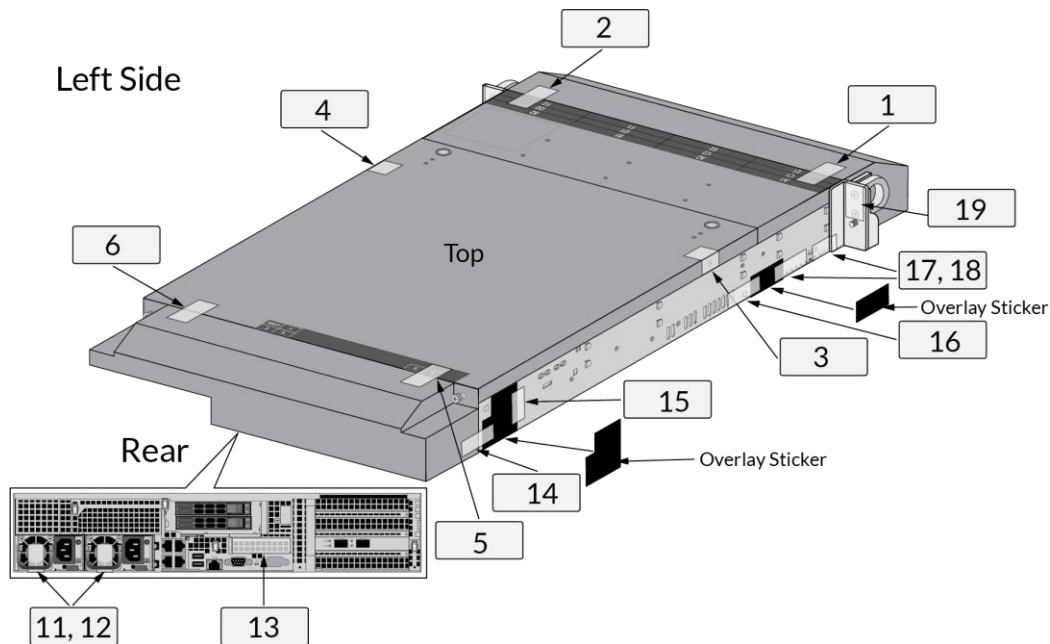
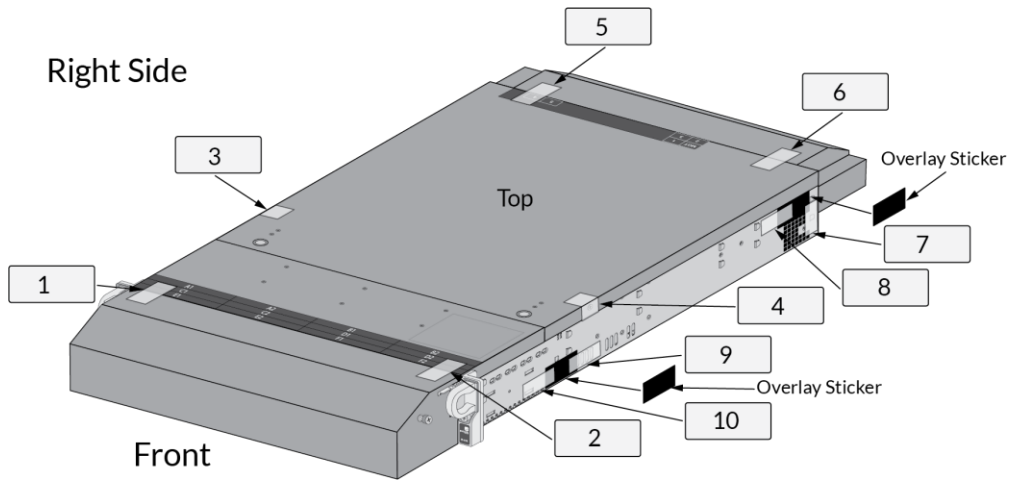

Figure 53 - M-600: Tamper Seal Locations (Top and Rear)
Figure 54 - M-600: Tamper Seal Locations (Top and Front)
4. Install a tamper-evident seal on the back of the appliance. This is seal #13 in the M-600 Figure 53. You need to install this seal before you install the M-600 FIPS back cover.
- a. Slide the back cover onto the back of the appliance and turn the two (2) thumb screws clockwise until tight (one (1) screw on each side) to secure the cover.
*Apply a tamper-evident seal to each location shown in the following M-600 illustrations below. Also install the overlay stickers to cover vent openings (two (2) stickers on each side). You then install tamper-evident seals over the overlay stickers. Apply two (2) tamper-evident seals on the back side of the right rack handle (see seals #18 and #19 on the left side in*
6. Figure 54). Apply two (2) tamper-evident seals on the power supplies (see seals #11 and #12 with rear inset of Figure 53).
**Before you apply the tamper-evident seals, ensure that the appliance and FIPS kit surfaces are clean and dry. Firmly press one (1) seal on to each of the locations shown in the illustrations. Avoid touching the seals for at least 24 hours to allow time for the seals to properly adhere to the appliance and FIPS kit surfaces.**